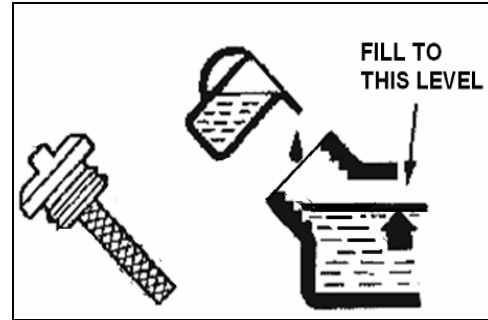

Figure 10- Adding oil
3. Using a funnel, add the appropriate type and amount of oil into the crankcase. The crankcase is full when the oil level has reached the second thread from the lip of the opening (see figure 10).